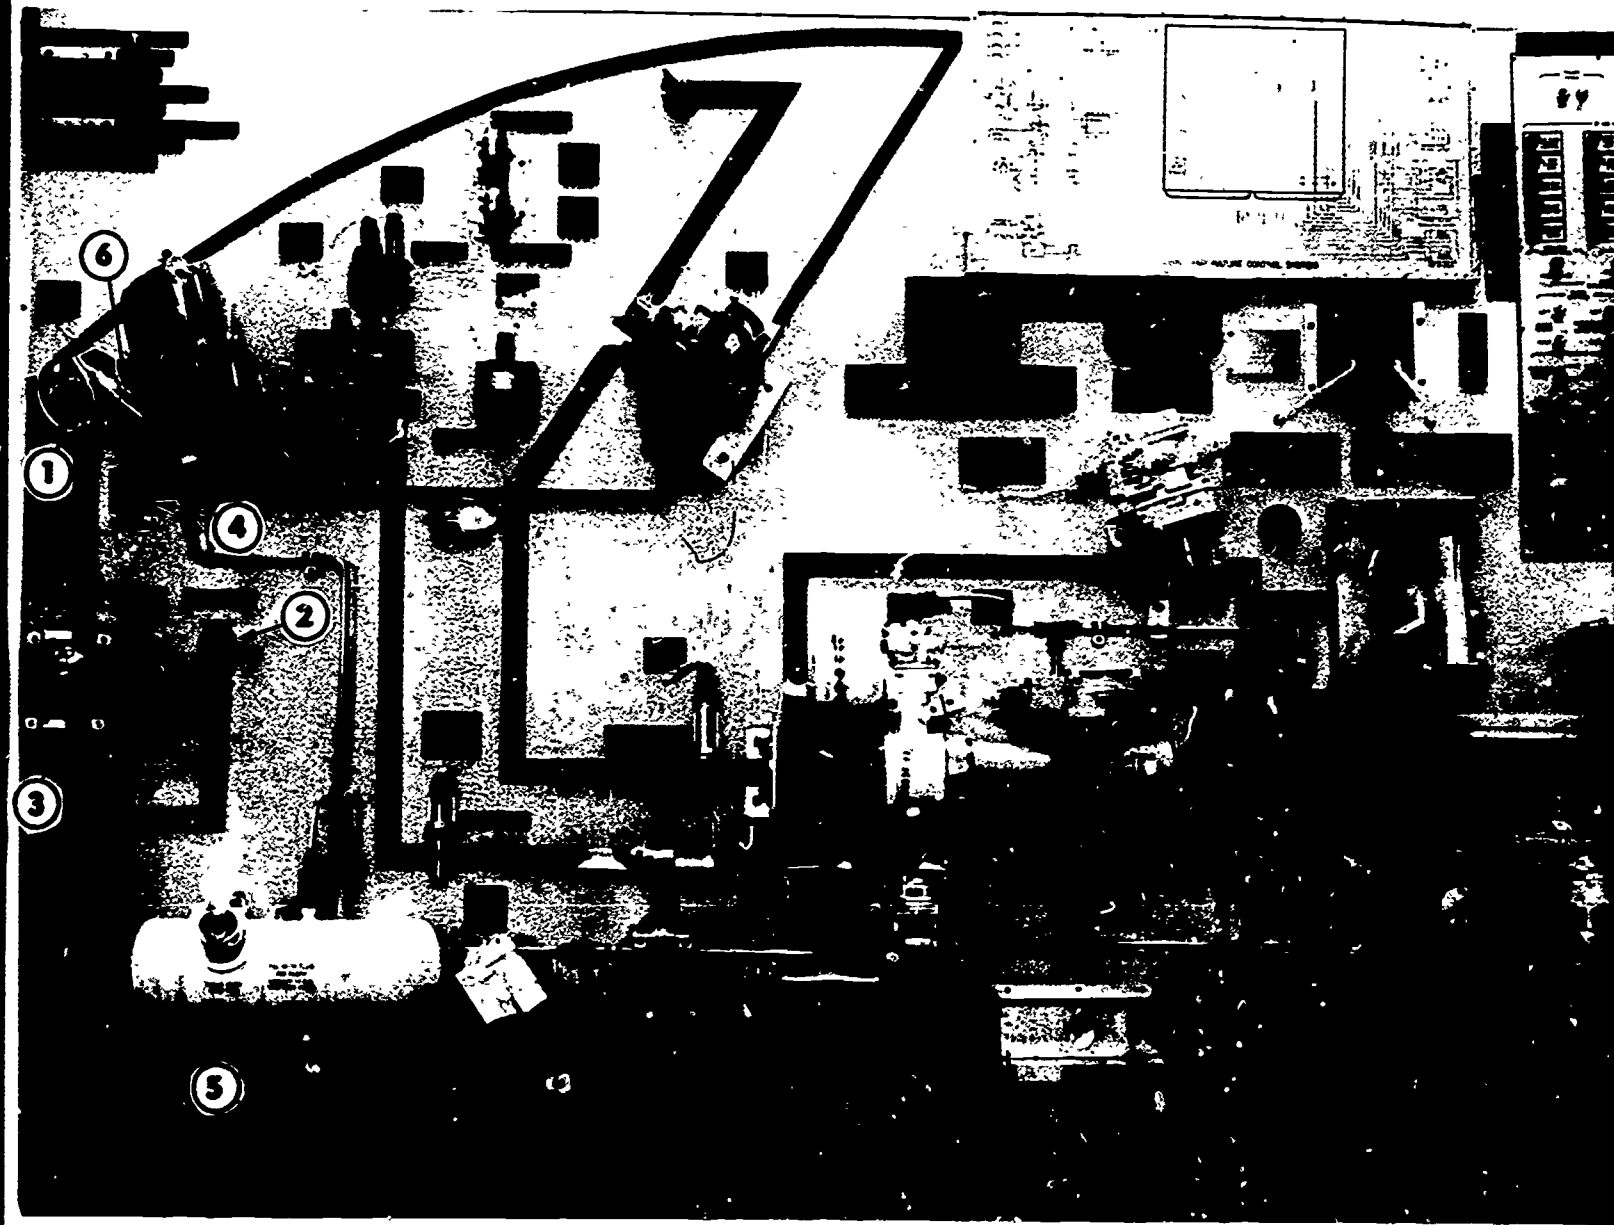

Figure 2.
2. Using the trainer and figure 2, find each of the lettered parts. Write the number that goes with the name in the blank space.
Answers, Figure 2.